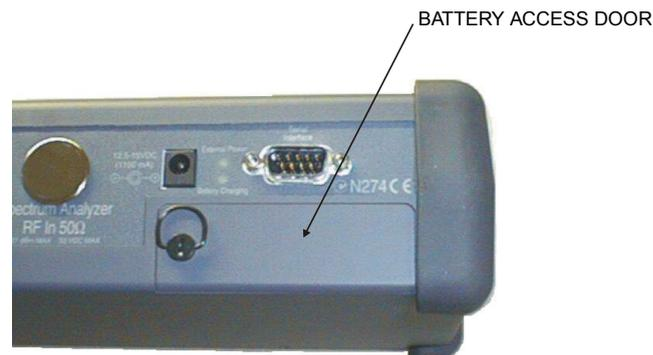

Figure 3-1. Battery Access Door Location
1. With the Cell Master standing upright on a stable surface, locate the battery access door, as illustrated in Figure 3-1.